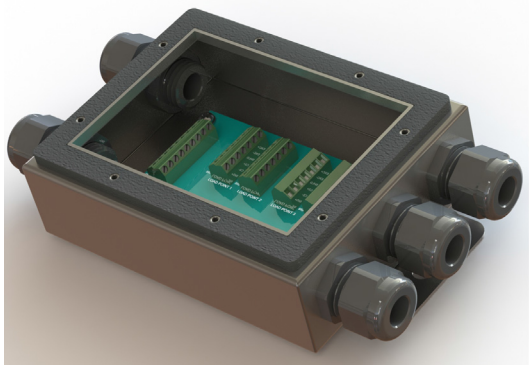

FIG. 13 A HARDY HI 6011 SUMMING BOX WITH THE LID REMOVED (WITHOUT LOAD CELL CABLING)
Step 4. After removing the 8 hex bolts, carefully set them aside for reassembly (Step 17). You may now remove the lid from the junction box chassis so that you can see all the wiring from the load sensors and to the instrument/indicator. (See Fig. 13)